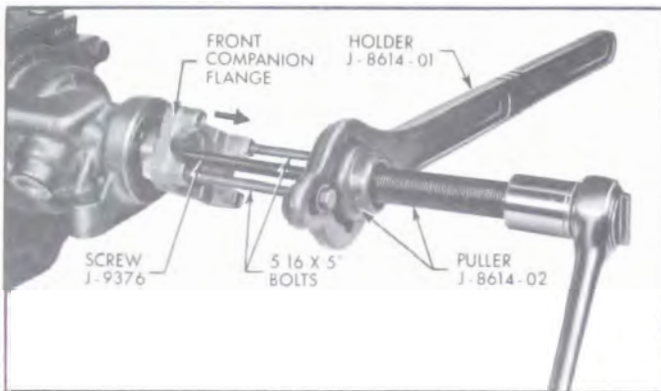

Figure 4-15A—Removing Front Companion Flange
3. Remove retainer holding speedometer sleeve in rear bearing retainer. Remove driven gear and sleeve. O-ring seal can not be removed from driven gear sleeve. Assemble puller J-8614 as shown in Figure 4-15A and pull companion flange from main shaft.